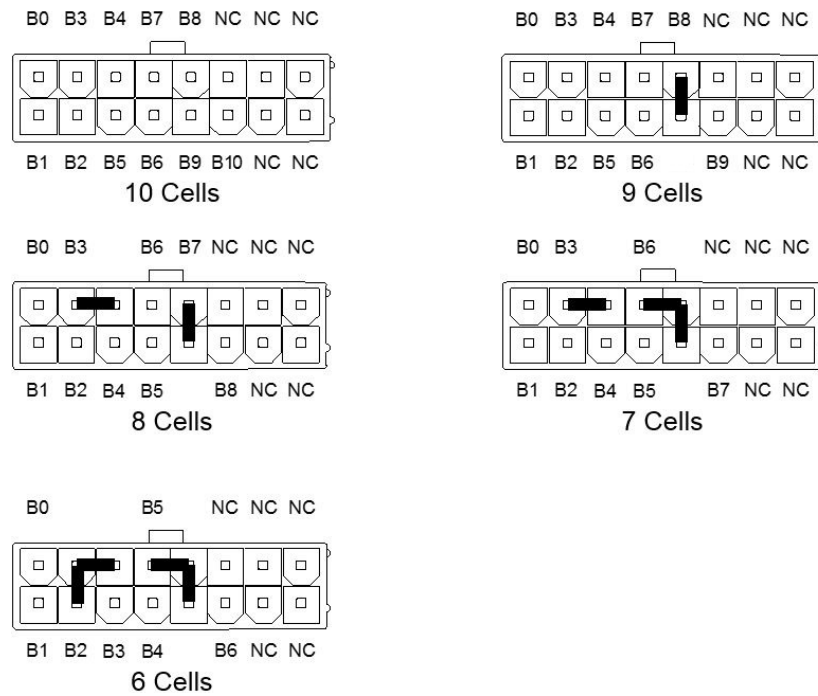
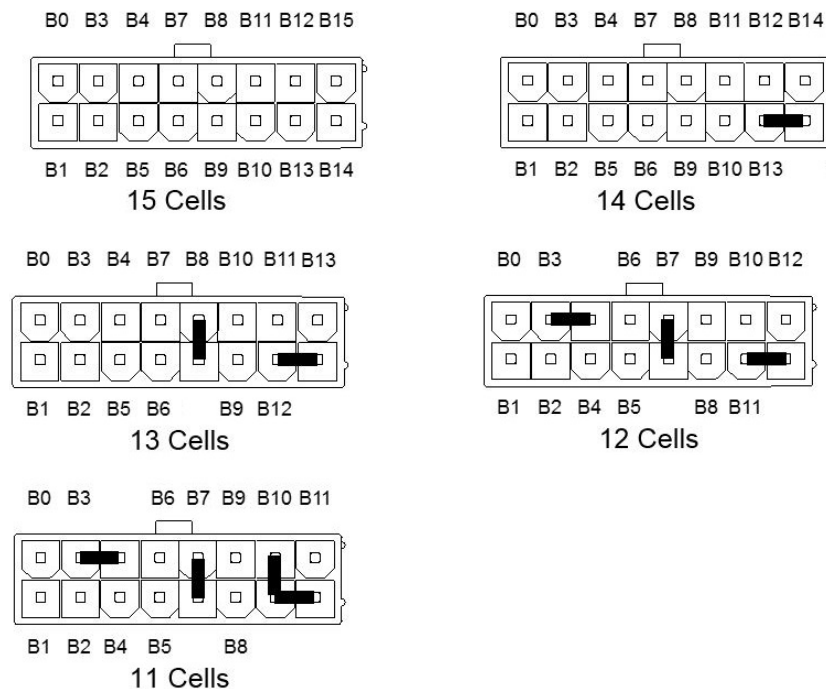

FIGURE 8. Pin-out Connections for 6 to 10 Cell Packs
FIGURE 9. Pin-out Connections for 11 to 15 Cell Packs
**For wiring the Molex connector, please consult Figure 8 for BMS1040x and Figure 9 for BMS1060x.**